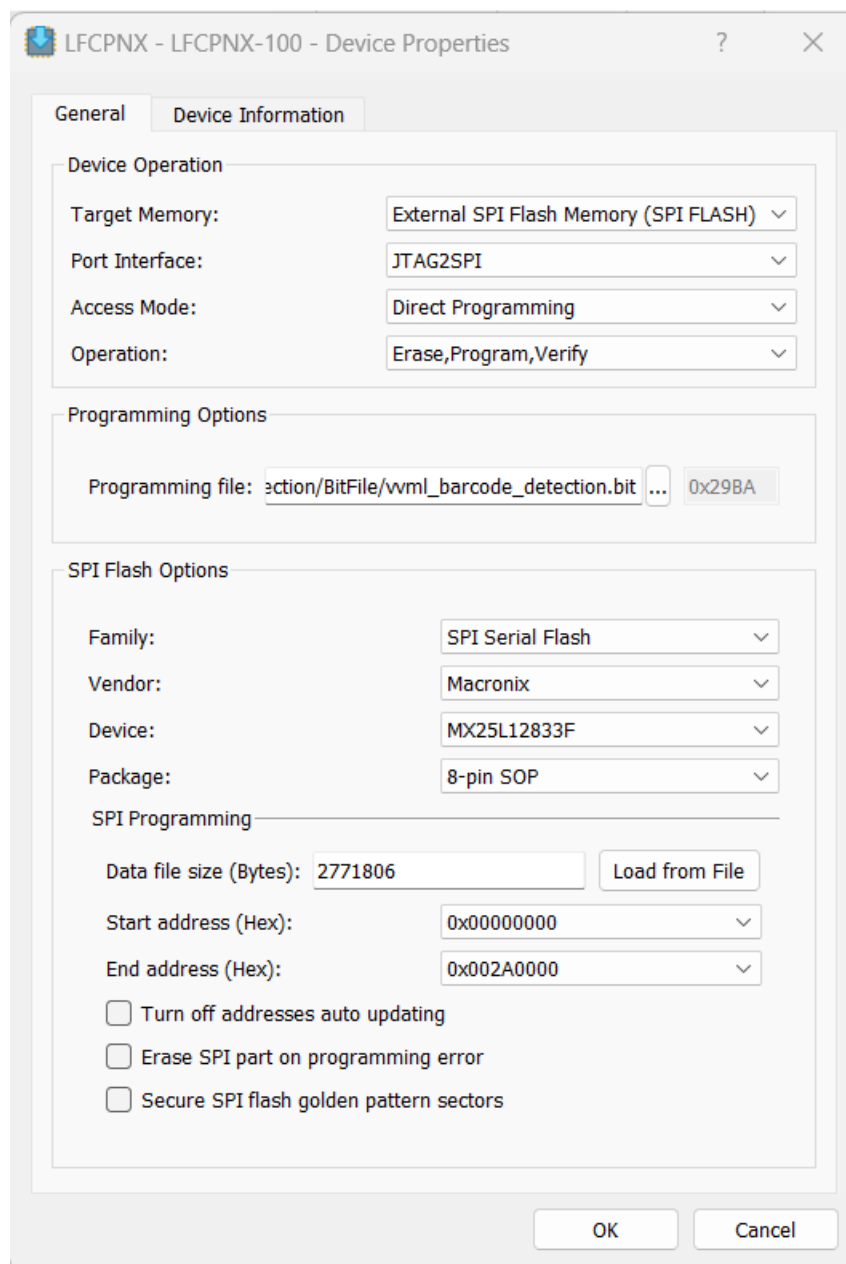

Figure 4.6. Radiant Programmer – Selecting Device Properties Options for CertusPro-NX Flash
3. In the Device Properties dialog box, configure the options as shown in Figure 4.6.
- c. For SPI Flash Options, select the configurations as shown in Figure 4.6 to select the **Macronix 25L12833F** device.